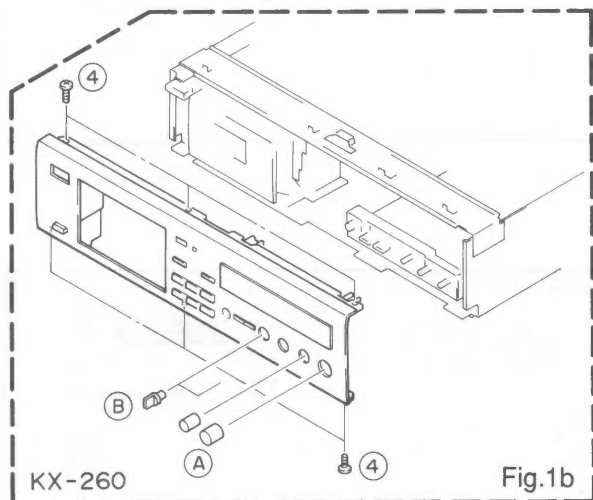

Fig.1b
- a. Remove 6 screws (④) in fig. 1b.
c. Remove 4 knobs (A, B) in fig. 1b.